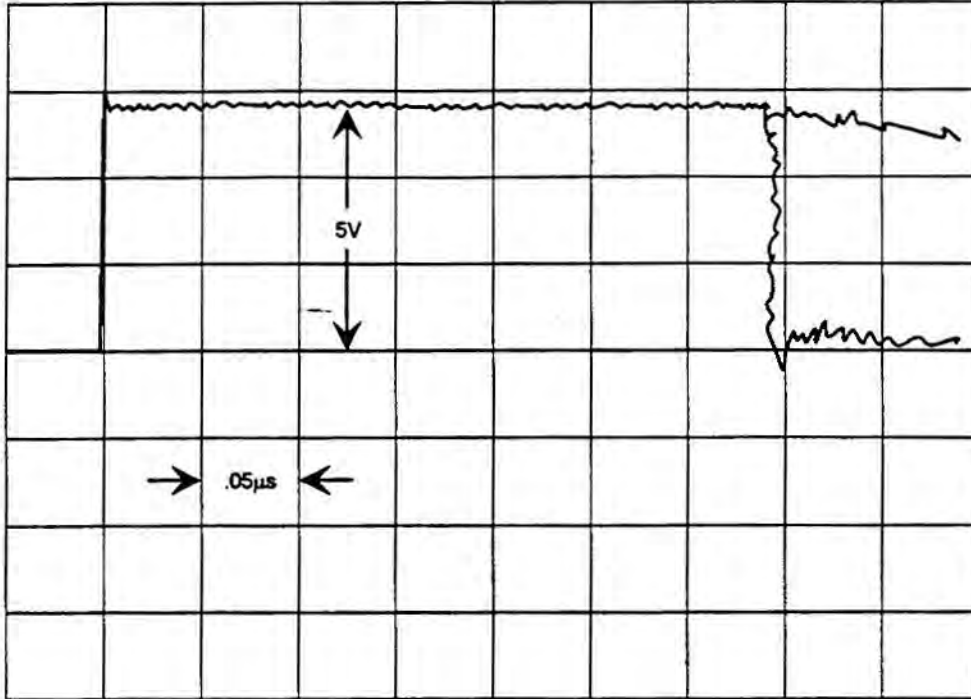

FIGURE 4-5. Typical Signal Trace for Address Lines (A1-A23)
4. If the clock is correct, check the address lines A1-A23, U31-32 through U31-51, and U31-53 through U31-55. Signals should be as shown in Figure 4-5. They should vary between a logic high and a logic low. If any address line is a constant high or low, or is varying to a voltage level less than +5 volts, replace U31.